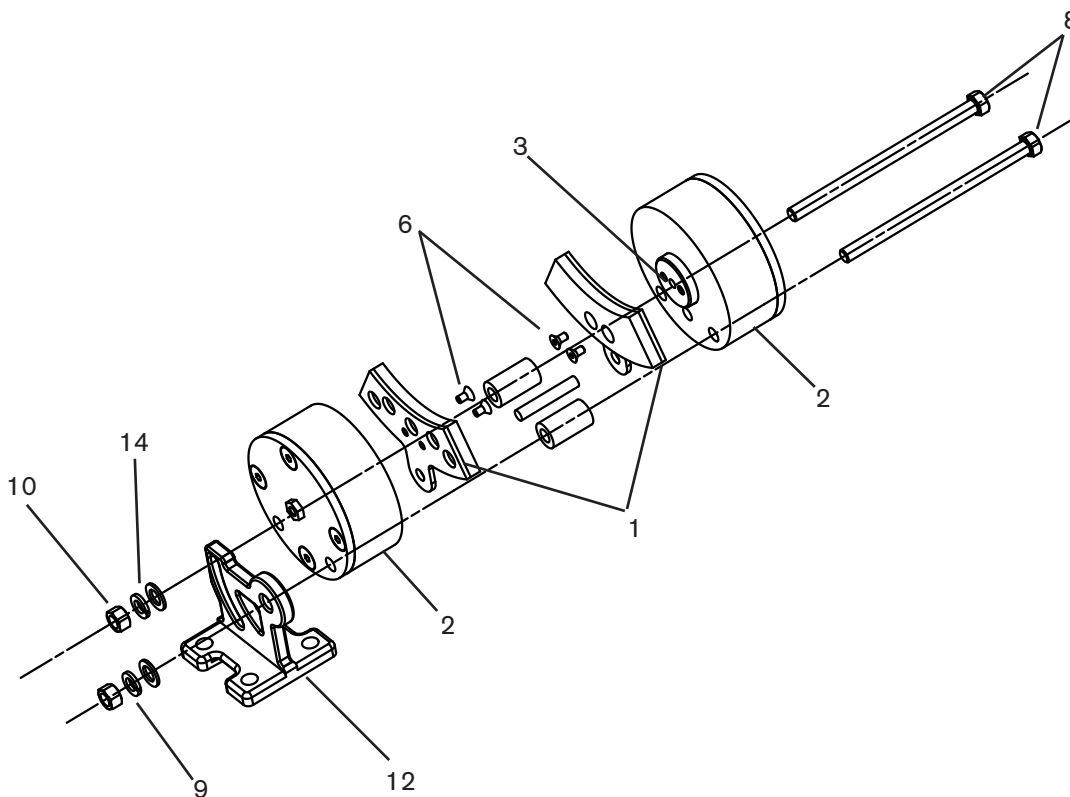

FIGURE 6
Refer to Figure 6.
1. Remove the two Hex Head Cap Screws (Item 8), Hex Head Nuts (Item 10), Lockwashers (Item 9) and Flat Washers (Item 14). Then remove the two Cylinder Assemblies (Item 2) from the "T" Support (Item 12). (See Figure 6).
2. Separate the two Cylinder Assemblies (Item 2) and set the Spacers (Item 13) and Pin (Item 4) aside. (See Figure 6).
4. Remove the Flat Head Cap Screws (Item 17), End Cap (Item 16) and Springs (Item 11) from both Cylinders (item 2).
6. Remove old U-Cup Seals (Item 5) and O-Rings (Item 15) from both Pistons (item 3).